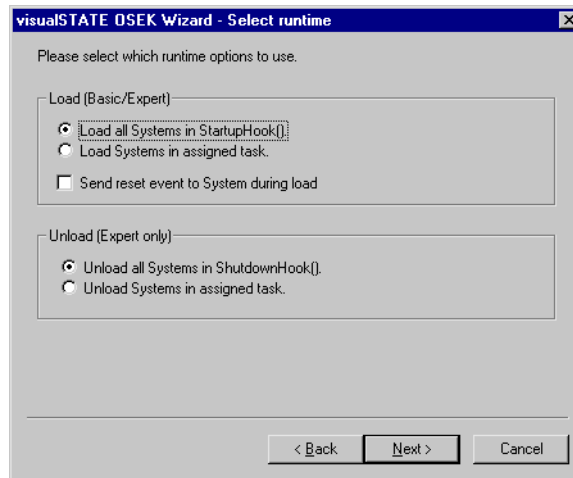

Figure 214: OSEK wizard, Select runtime options
- 8 When you have assigned visualSTATE Systems to the appropriate OSEK tasks, click *Next* to proceed to the next wizard page. See *Figure 214*, page 318.
Loading of a visualSTATE System is either via the `StatupHook()`, `main()`, or during OSEK task activation, as specified in the visualSTATE OSEK wizard (see *Figure 214*, page 318). An example of load during task activation is shown in the following: